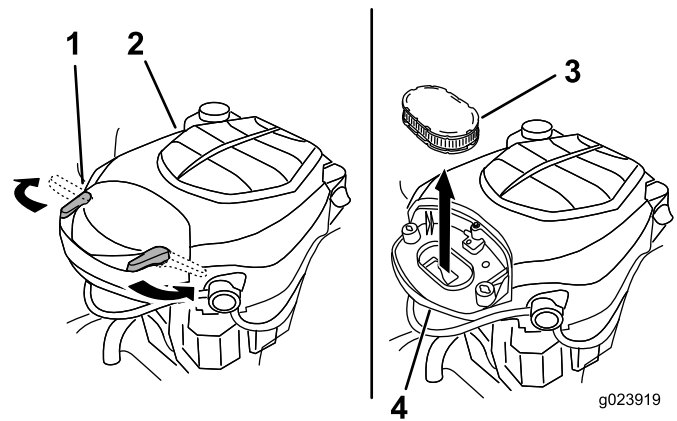

Figure 27
2. Remove the cover to access the air-cleaner element (Figure 27).
6. Install the cover, and secure it with the latches (Figure 27).